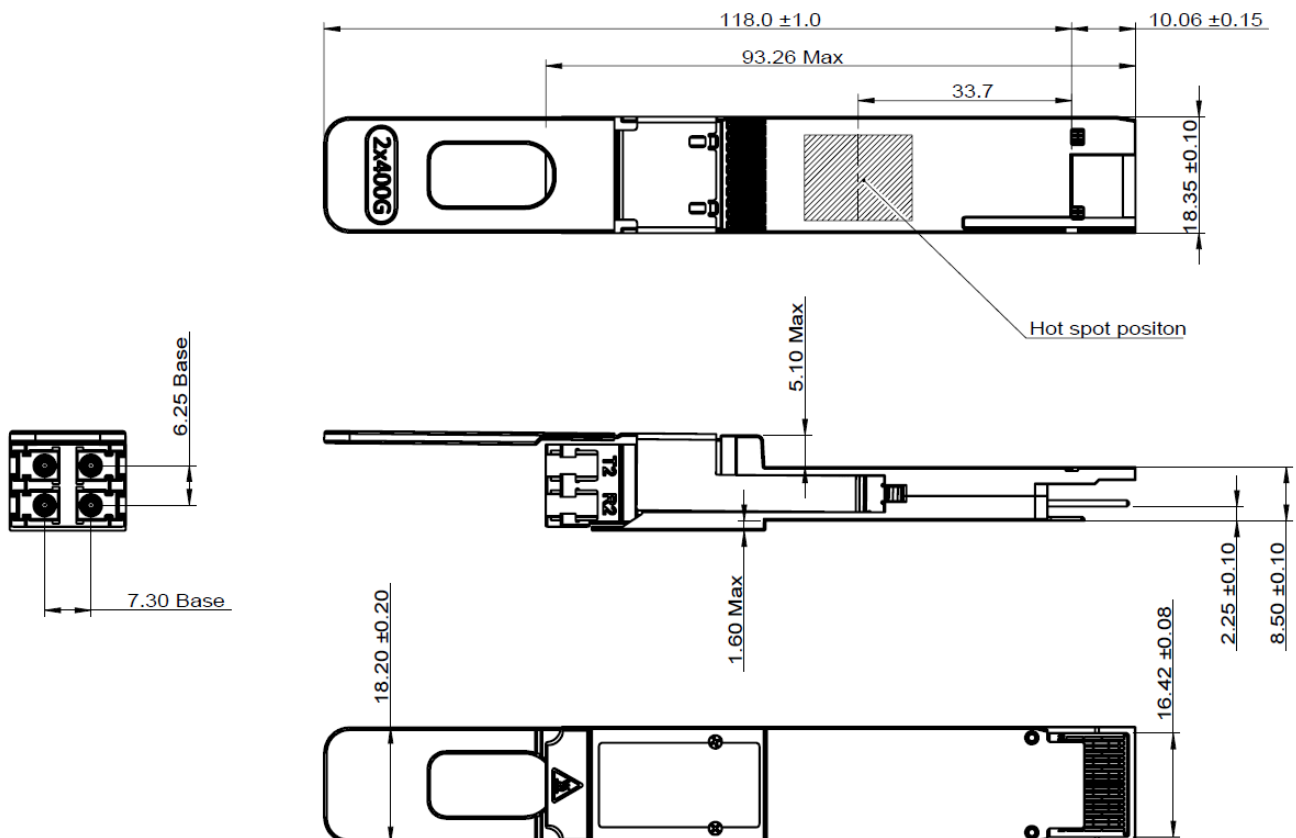

Figure 4 Mechanical Specifications (mm)
2. The values for OMA_{outer} (min) vary with TDECQ. Figure 4 illustrates this along with the values for OMA_{outer} (max).
6. Receiver sensitivity (OMA_{outer}) is informative and is defined for a transmitter with a value of SECQ up to 3.4dB. Receiver sensitivity should meet Equation (1), which is illustrated in Figure 4.